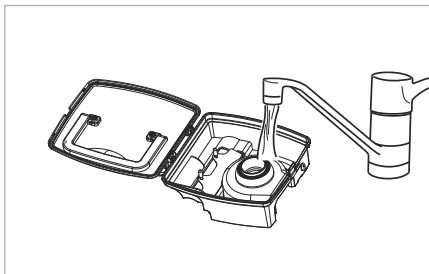

Fig. 12
- 5) Rinse out the dust container ⑭ with cold or lukewarm water (see Fig. 12). Allow the dust container ⑭ to air dry completely before inserting it back into the appliance.